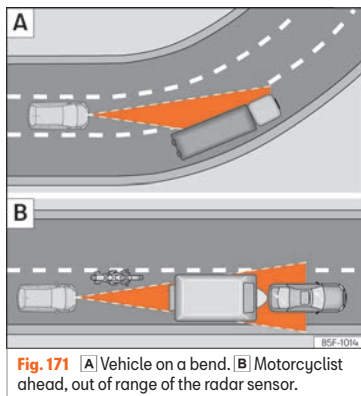

Fig. 171 [A] Vehicle on a bend. [B] Motorcyclist ahead, out of range of the radar sensor.
The ACC may not detect the vehicle in front on a curve, or may regulate the distance from vehicles in other lanes »» Fig. 171 [A].
- Vehicles that are not aligned while driving or that are outside the sensor's detection area, such as motorcycles »» Fig. 171 [B].